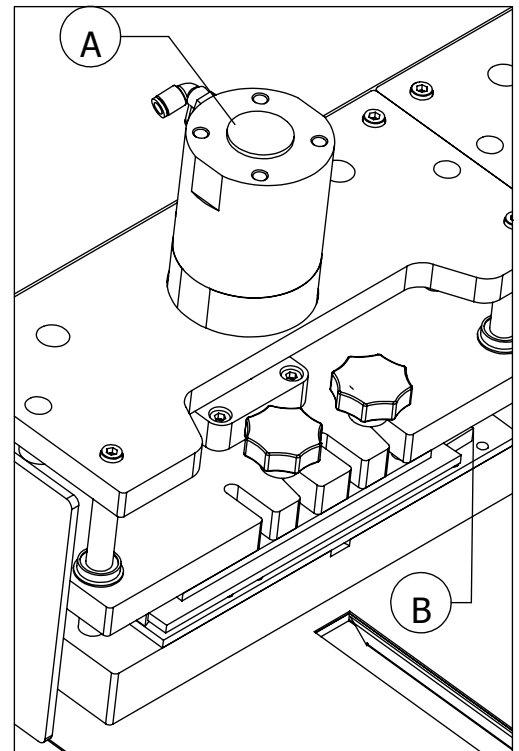

Figure 1
- Control the mould. (Figure.1)
- Control connections of the mould. (Figure.1)
- Control mould cylinders. (Figure.1)